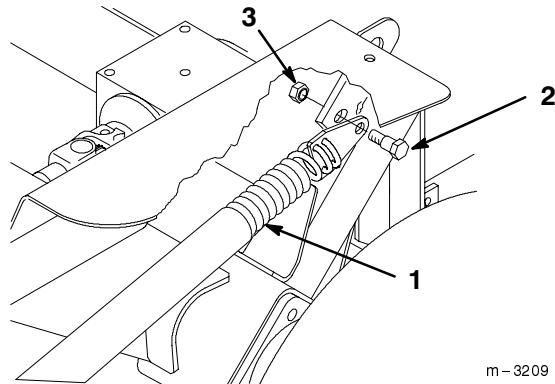

Figure 11
4. Remove  $3/8" \times 7/8"$  (23 mm) shoulder bolt and  $3/8"$  locknut securing spring end plate assembly to carrier frame (Fig. 11).